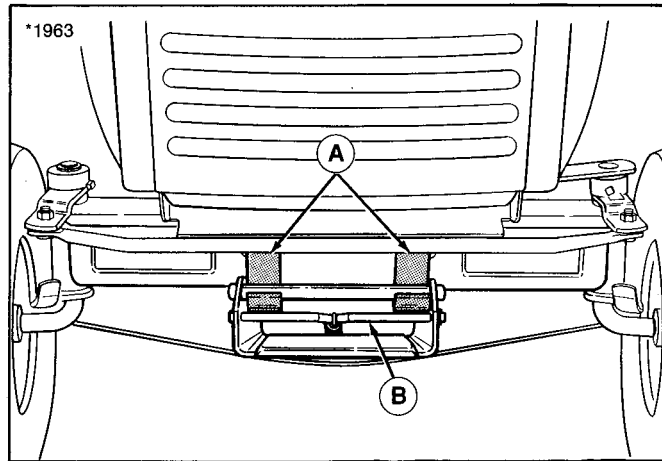

Figure 15.
4. Remove mower from tractor hitch brackets (A, figure 15) by pulling spring-loaded lever (B) forward and lifting up on hitch. Place mower hitch on ground.